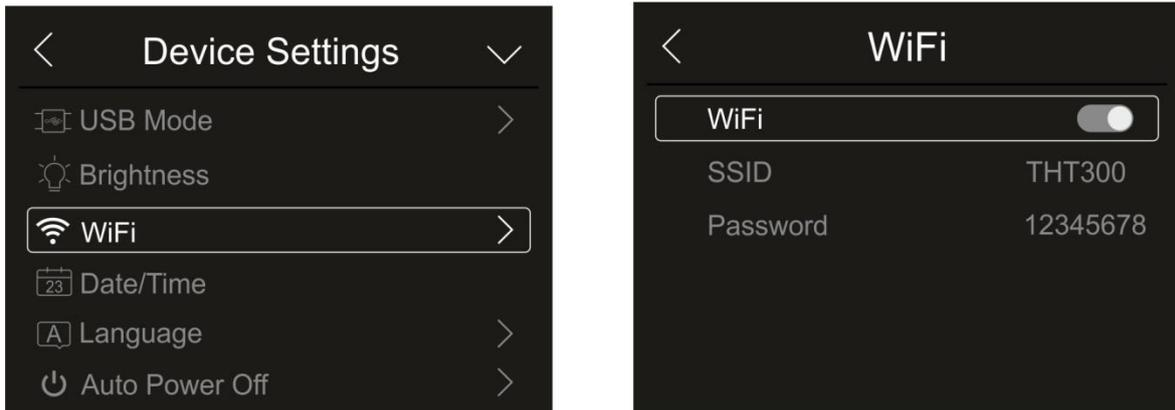

Fig. 14: Activation of WiFi connection
1. Touch the item “WiFi” to enter the section for the activation/deactivation and customization of the instrument's WiFi connection. The screen in Fig. 14 – right side appears on the display.